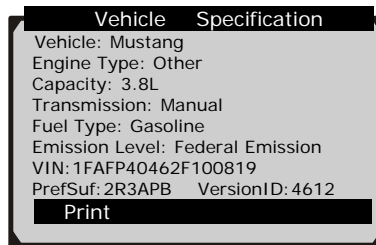

Figure 4.2
- 4) Review selected data on screen. (Figure 4.2 )